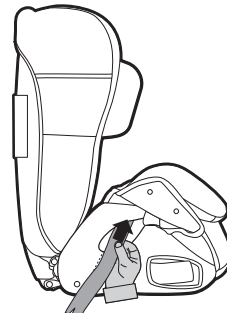

Figure 3
- Step 3:** Rotate the vehicle seat belt through the armrest, passing it across the shell and then pass it out through the other side of the seat (refer Figure 3).